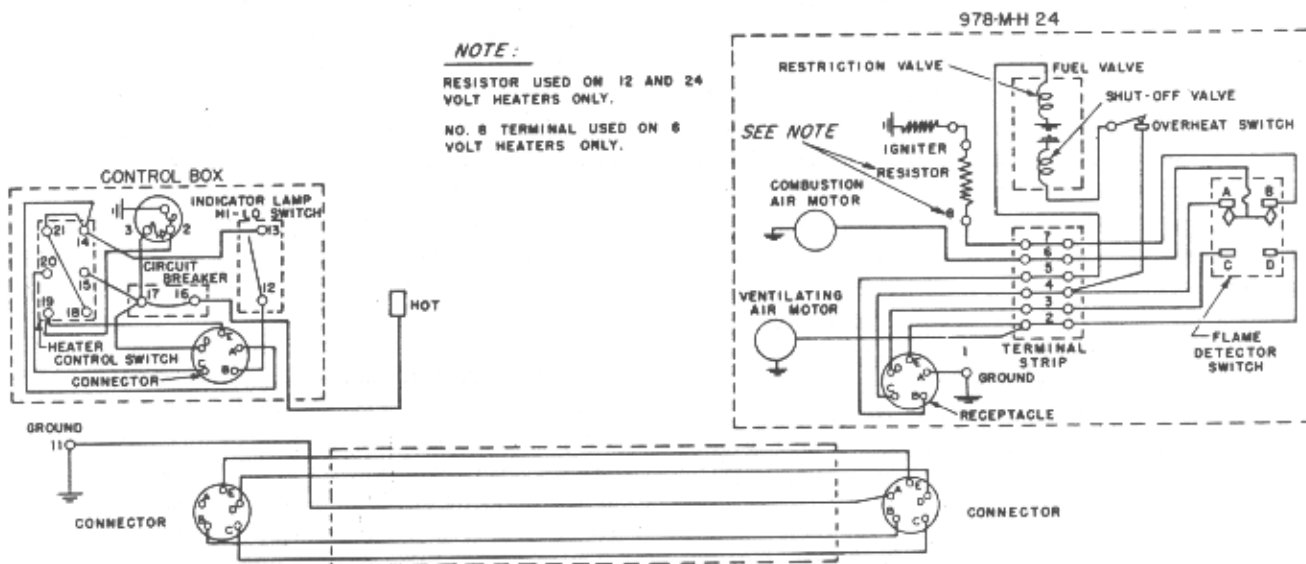

Figure 22—Typical Installation Wiring Diagram, Showing 978-M-H24 Heater
1. When the heater switch is snapped "ON" several things occur simultaneously (see Figures 22 and 23)
1. The Model 978-M6, -M12, and -M24 heaters are no longer in production and are now regarded as obsolete since they are not suppressed for radio interference. However, these heaters may be encountered in the field, and if repairs are required, the defective parts should be replaced with parts of the 978-MC series, using parts of the proper voltage in all cases. The 978-MC parts are interchangeable by making minor changes in wiring connections using Figure 22 as a guide.